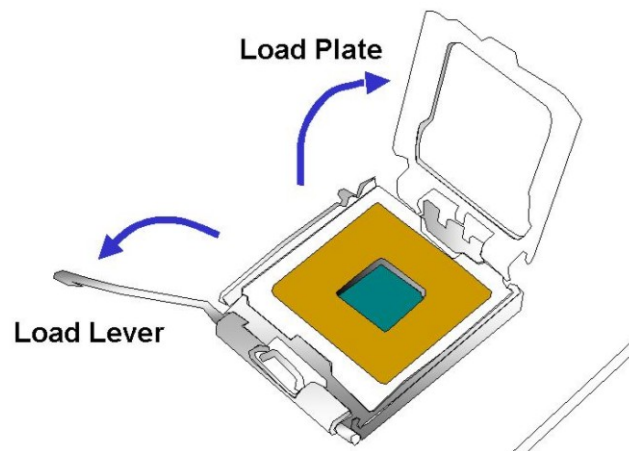

Figure 4-3: Open the CPU Socket Load Plate
- Step 2: Open the socket.** Disengage the load lever by pressing the lever down and slightly outward to clear the retention tab. Rotate the load lever to a fully open position. Then rotate the load plate towards the opposite direction. See **Figure 4-3**.